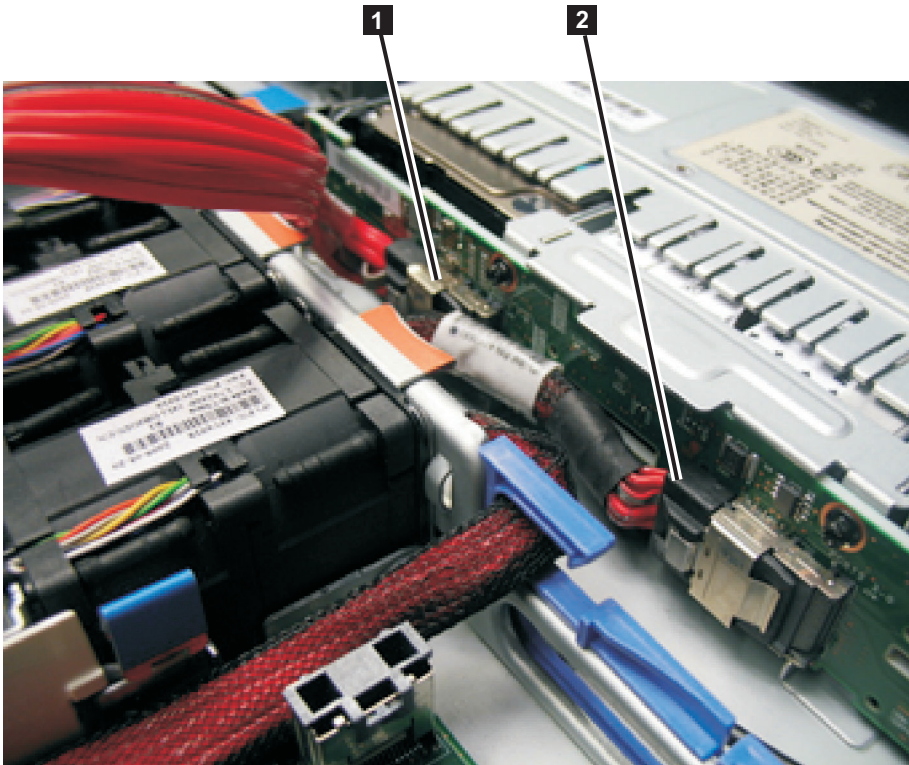

Figure 200. Boot-disk SAS cable and the high-speed SAS cable connected to the disk backplane in the SAN Volume Controller 2145-CG8 or 2145-CF8
11. Disconnect the high-speed SAS cable from the SAS connector in the center of the back of the disk backplane, as shown in Figure 200 on page 204.